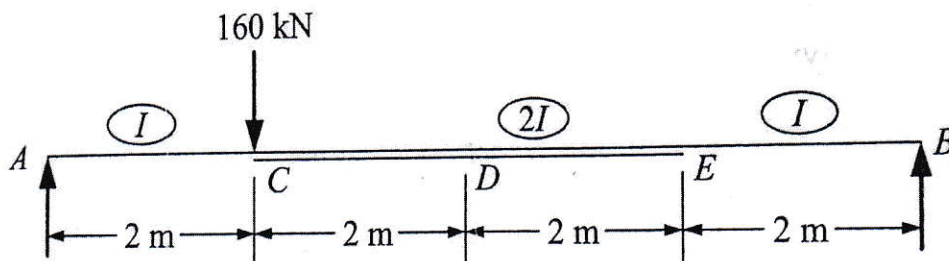

Fig. 4
- c) Determine the rotation at B and deflections at E in the beam shown in figure 4. Use conjugate beam method. 8